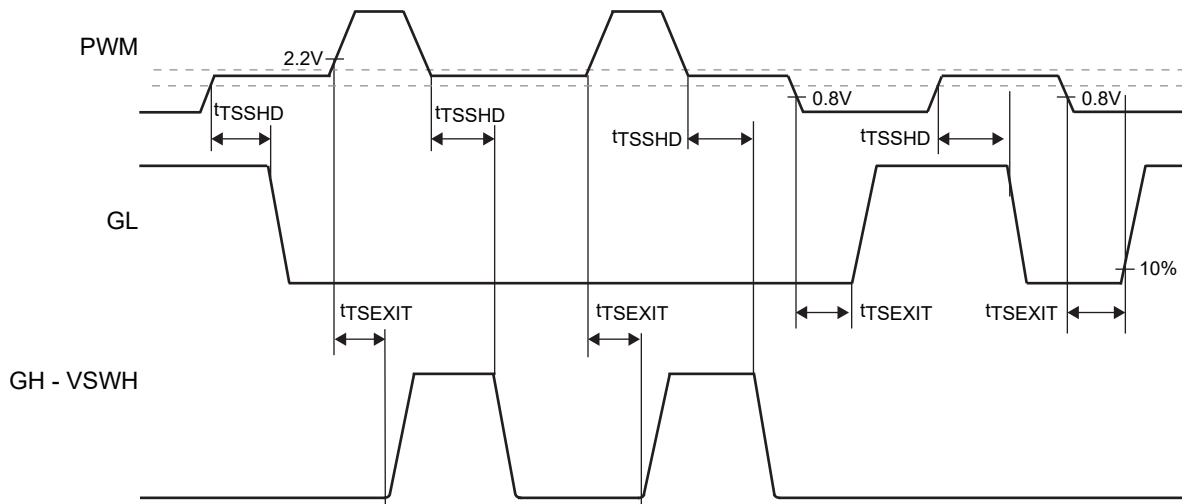

Figure 2. PWM Tri-State Input Logic Timing Diagram
The PWM is also a tri-state compatible input. When the input is high impedance or unconnected both the gate drives will turn off and the MOSFET gates are held actively low. The PWM Threshold Table (below) lists the thresholds for high and low level transitions as well as tri-state operation window. As shown in Figure 2, there is a hold off delay between the corresponding PWM tri-state signal and the output gate drive being pulled low. This delay is typically 155ns and intended to prevent spurious triggering caused by tri-state mode entrance.
**Note:** See Figure 2 for propagation delays and tri state window.